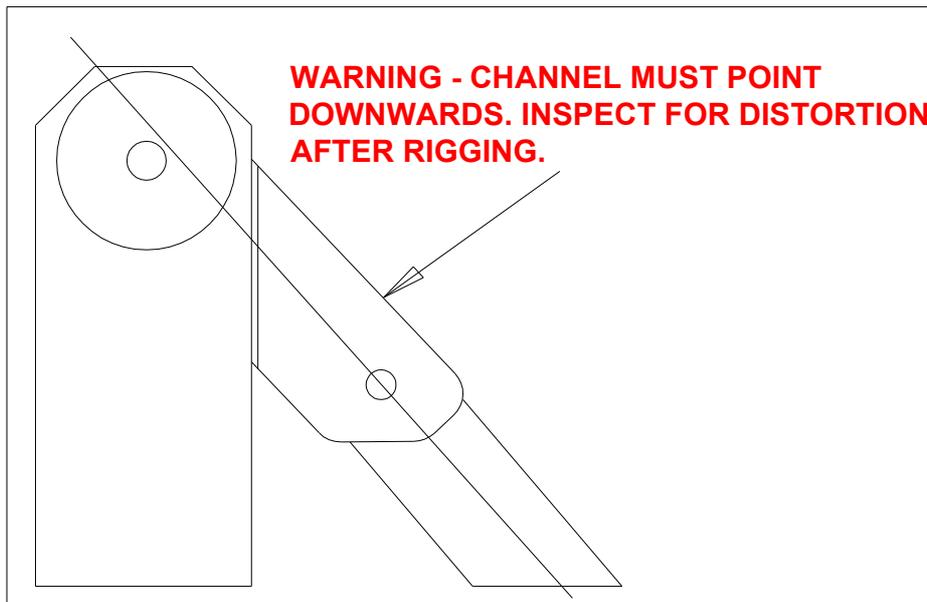

Fig 3. Placard ZPL-155
- 4) Apply placard ZPL-155 on the pylon next to the channel (see fig. 3)